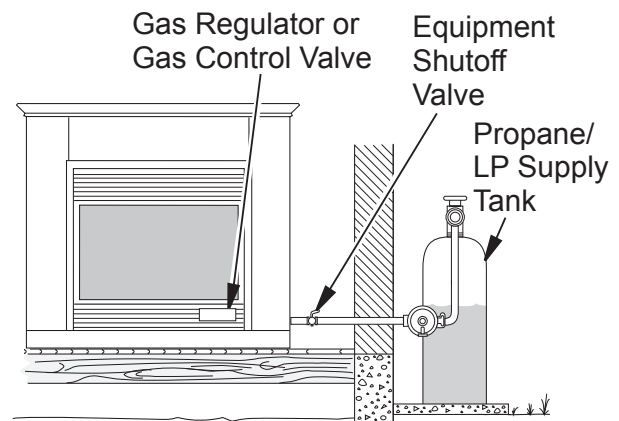

Figure 17 - Checking Gas Joints (Propane/LP Only)
3. Check all joints from gas meter to equipment shutoff valve for natural gas or propane/LP supply to equipment shutoff valve for propane/LP (see Figures 17 or 18). Apply noncorrosive leak detection fluid to all joints. Bubbles forming show a leak.
4. Check all joints from equipment shutoff valve to gas regulator (Thermostat-Controlled Models) or to gas control valve (Remote-Ready Models) (see Figures 17 or 18). Apply noncorrosive leak detection fluid to all joints. Bubbles forming show a leak.